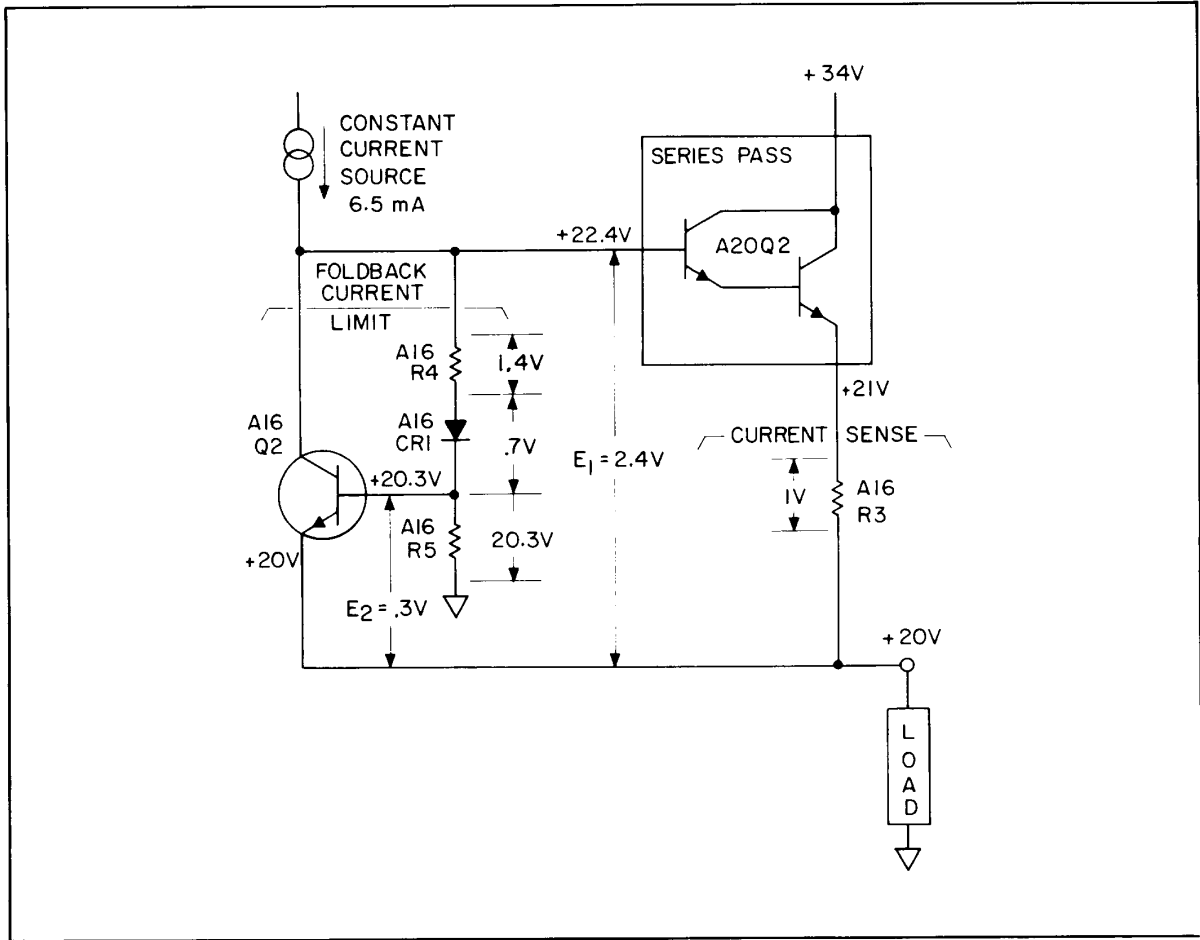

Figure 8-121. Foldback Current Limit, Simplified Schematic
**Foldback Current Limit.** The Foldback Current Limit circuit is shown in Figure 8-121 with voltages given for a load current of 2A. Current limiting transistor A16Q2, with voltage divider A16R4, A16CR1, and A16R5 on its base, monitors the voltage drop  $E_1$ . As the load draws more current,  $E_1$  increases because of the larger voltage drop across current sense resistor A16R3. The voltage drop  $E_2$  is determined by resistor A16R5 and by the magnitude of the voltage drop  $E_1$  in relation to the output voltage. When the load draws approximately 2.4A and the power supply output is +20V,  $E_2$  becomes large enough to turn on the current limiting transistor A16Q2 to draw current from the constant current source. This causes a lower base drive voltage to A20Q2 and results in a lower power supply output voltage. If the load continues to draw excessive current in proportion to the output voltage, current limiting transistor A16Q2 remains turned on, and the power supply is effectively shut down. The current limiting operation can be checked by momentarily grounding the +20V output (A16TP3) to A16TP4 and observing that the +20V indicator A16DS2 turns back on when the ground is removed.